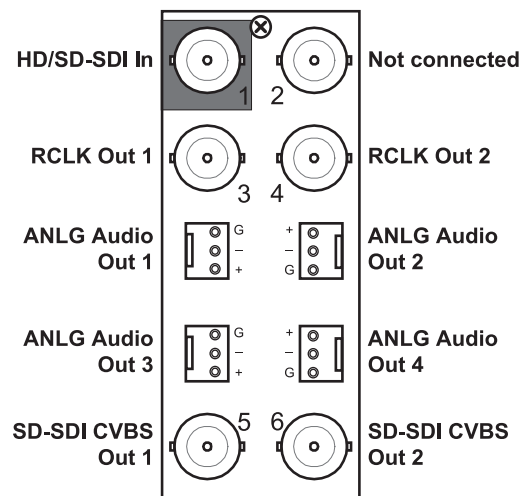

Figure 2.3 Cable Connections for the 8320AR-1821 Rear Module
- **8320AR-1821** Full Rear Module — Each card occupies two slots and provides one SDI input, two output copies of the re-clocked input, two SDI-Composite outputs, and four analog audio outputs. (Figure 2.3)